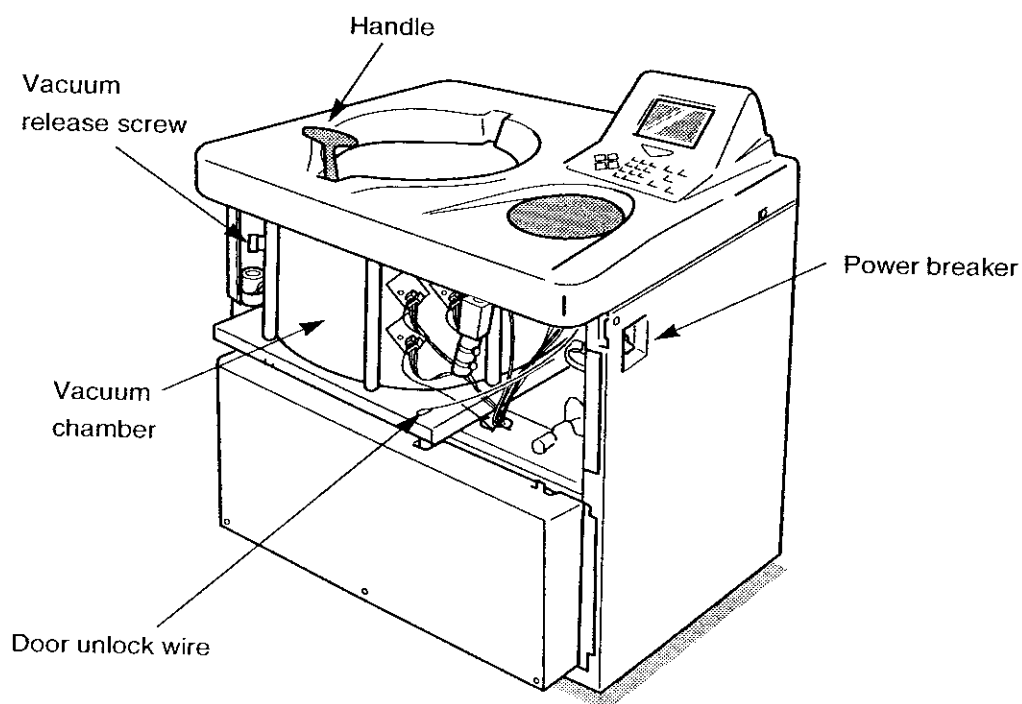

Fig. 2-7-2. Ultracentrifuge with the front cover removed
- (4) Open the air vent (by turning the vacuum release screw on the left of the vacuum chamber counterclockwise) to let air into the rotor chamber. When the pressure in the rotor chamber reaches atmospheric pressure, do not forget to tighten the vacuum release screw as it was before. (See Fig. 2-7-2.)
- (5) Pull the door unlock wire on the right of the vacuum chamber and, at the same time, push the door handle. Then the door opens. When opening the door, confirm that the rotor is not rotating. If it is still rotating, immediately close the door.